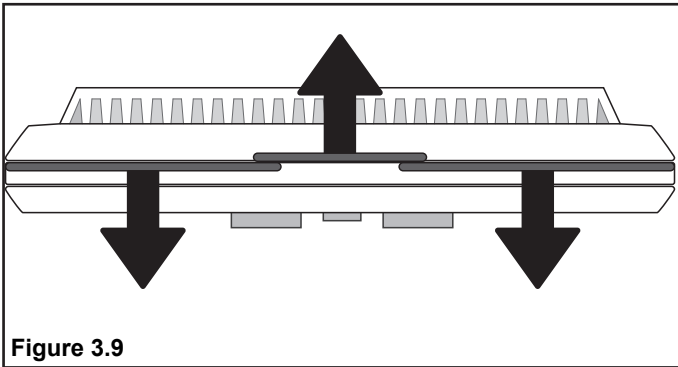

Figure 3.9
1. Separate the body of the thermostat from the mounting plate by gently pulling the two pieces apart. See Figure 3.9.